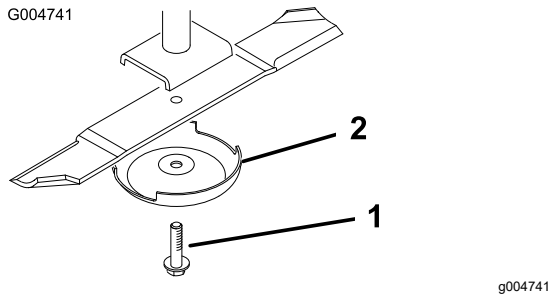

Figure 130
3. Remove the blade bolt, anti-scalp cup, and blade from the spindle shaft (Figure 130).